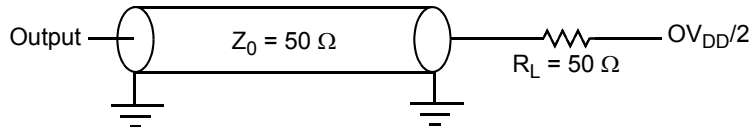

Figure 32. AC Test Load for the JTAG Interface
1. All outputs are measured from the midpoint voltage of the falling/rising edge of t_{TCLK} to the midpoint of the signal in question. The output timings are measured at the pins. All output timings assume a purely resistive 50-Ω load (see Figure 32). Time-of-flight delays must be added for trace lengths, vias, and connectors in the system.
2. The symbols used for timing specifications follow the pattern of $t_{\text{(first two letters of functional block)(signal)(state)(reference)(state)}}$ for inputs and $t_{\text{(first two letters of functional block)(reference)(state)(signal)(state)}}$ for outputs. For example, $t_{\text{JTDV KH}}$ symbolizes JTAG device timing (JT) with respect to the time data input signals (D) reaching the valid state (V) relative to the t_{JTG} clock reference (K) going to the high (H) state or setup time. Also, $t_{\text{JTDX KH}}$ symbolizes JTAG timing (JT) with respect to the time data input signals (D) went invalid (X) relative to the t_{JTG} clock reference (K) going to the high (H) state. Note that, in general, the clock reference symbol representation is based on three letters representing the clock of a particular functional. For rise and fall times, the latter convention is used with the appropriate letter: R (rise) or F (fall).